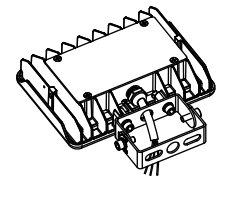

figure 2.3
- Step 4: Tighten the other bracket with screws (figure 2.3)